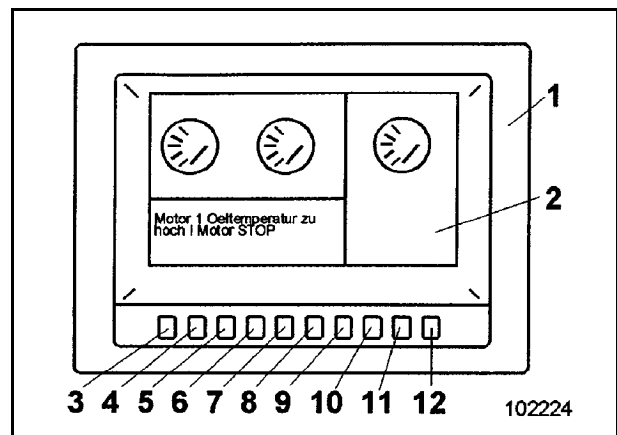
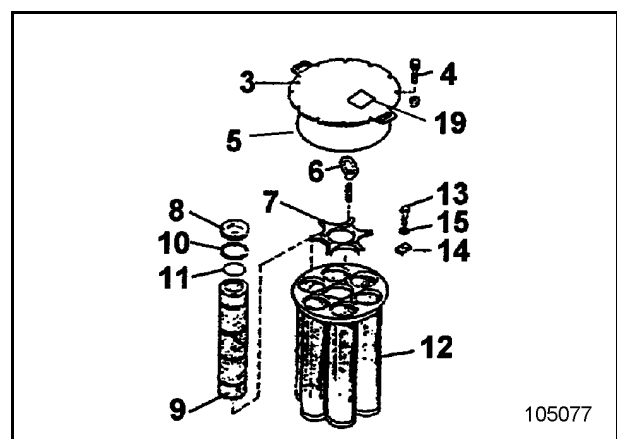

Fig. 3-73:
Fig. 3-74:
- when the BCS displays a warning on the screen (Fig. 3-73:). In this case, the filter elements (9, Fig. 3-74:) are heavily contaminated;